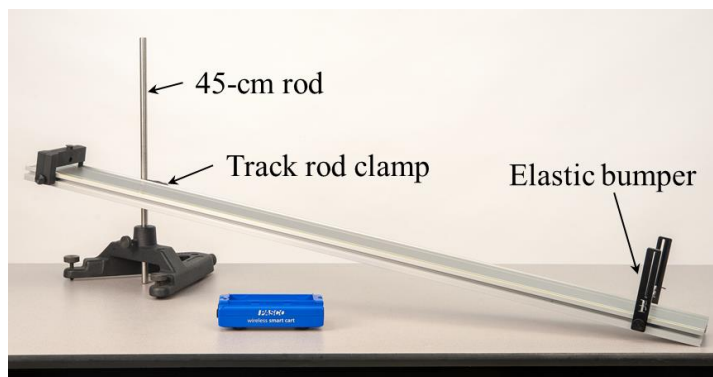
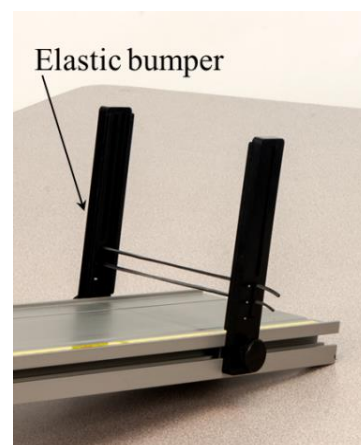

Figure 1: Inclined Track Setup
Figure 2: Elastic Bumper
1. Set up the track as shown in Figure 1 using the rod base and 45-cm rod.
2. Install the fixed End Stop at the top of the incline (see Figure 1), and an Elastic Bumper at the bottom, using at least two pieces of elastic (see Figure 2).